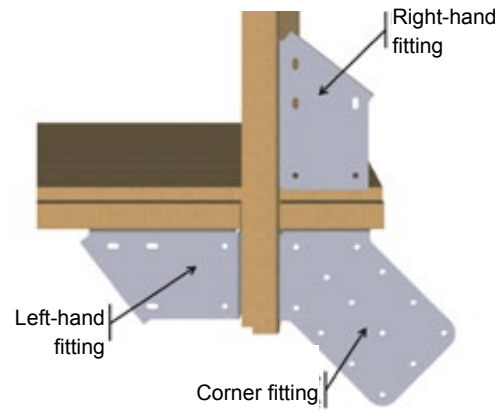

Figure 18 – Mounting the fitting in the corners
- In each of the corners, mount a right-hand fitting, a left-hand and a corner fitting as shown in Figure 18. Use 4 hinge screws 6 × 20, A2 SS (bag G) per corner fitting 6 hinge screws 6 × 20 in A2 SS (bag G) per left- and right-hand fitting, that is a total of 64 screws.